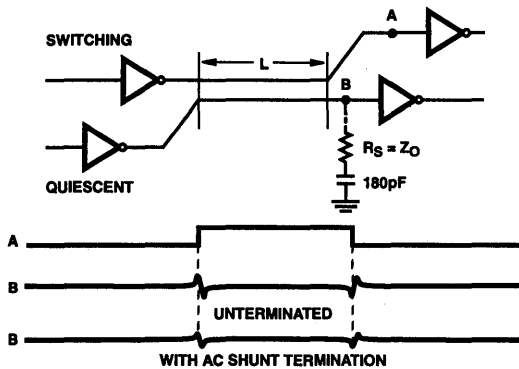

FIGURE 32. SIGNAL CROSSTALK RESULTS FROM PARALLEL TRACES AND IS REDUCED BY TERMININATION
8. Avoid Crosstalk Problems - As shown in Figure 32, if two PCB interconnect copper traces on the same layer run closely spaced in parallel for enough distance (L) without terminations, a noise glitch at B can be large enough to switch that input. Rules to avoid problematic crosstalk: